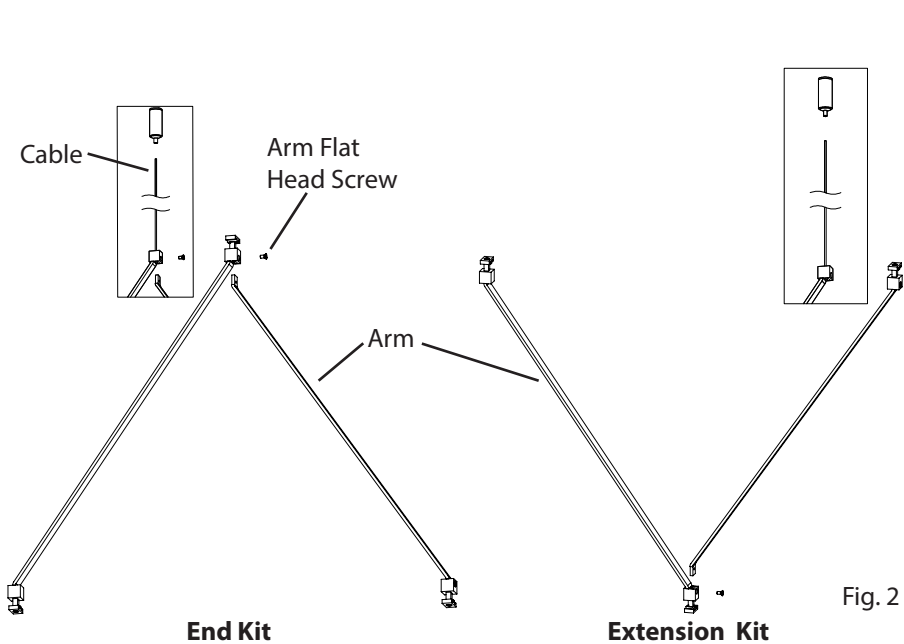

Fig. 2
2. Insert Extension or End **Arm** into the remaining slot of the **Bracket** and secure it with the provided **Arm Flat Head Screw** (Fig. 2).
3. Where applicable: Insert the **Cable** into the **Post** and adjust to the desired length: to shorten, push the Cable up; to lengthen, push in the **Plunger** while pulling down on the Cable, release the Plunger to lock. Cut off the excess Cable where it exits the Post (Fig. 2).